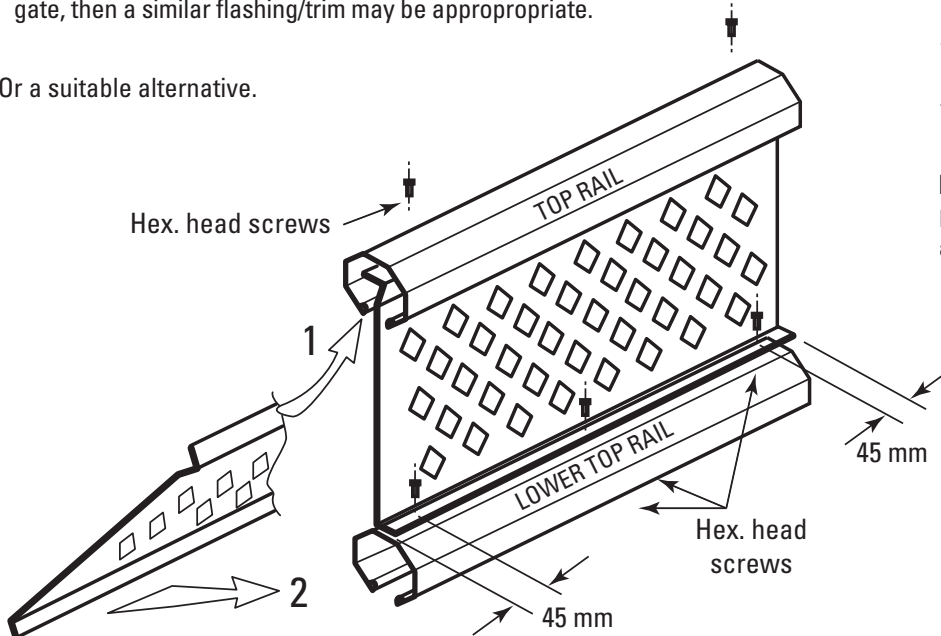

Figure 22.5
15. If your gate includes a lattice, insert it into the top rail. Swing the bottom of the lattice in, and secure it to the lower top rail using 3 hex. head screws for standard width gates, or 3 for extra wide gates. Secure it also to the top rail: 2 screws for standard width gates, and 3 screws for extra width gates. (Figure 22.5)